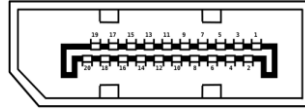

Figure 3-30: External DP Connector Pinouts
- CN Location:** See **Figure 3-30**